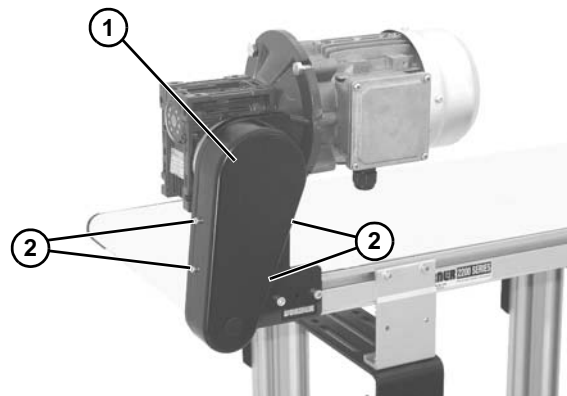

Figure 22
11. Install cover (Figure 22, item 1) with four (4) screws (Figure 22, item 2). Tighten to 35 in-lb (4 N-m).
1. Remove four (4) screws (**Figure 22, item 2**) and remove cover (**Figure 22, item 1**).
4. Install cover (**Figure 22, item 1**) with four (4) screws (**Figure 22, item 2**). Tighten to 35 in-lb (4 Nm).
6. Install cover (**Figure 22, item 1**) with four (4) screws (**Figure 22, item 2**). Tighten to 35 in-lb (4 Nm).